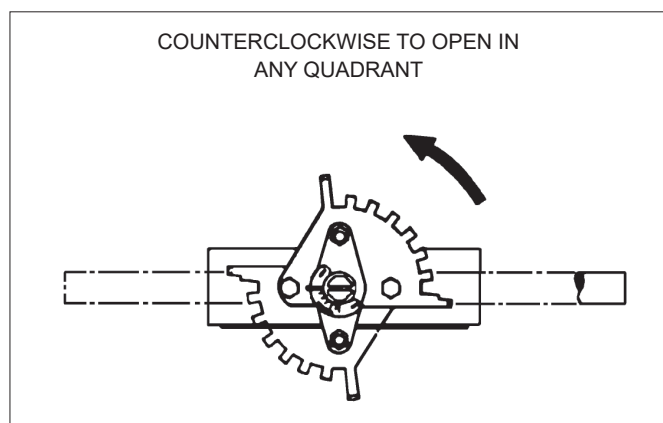

Figure 13.
- Remove the packing (8) and the spacer (7), and when applicable, the spacers (41) and (43)
- Remove the top bearing (6) either through the top of the valve or the waterway.
- Remove the bottom bearing (6) either from the bottom of the valve or the waterway.
- Install the bearings (6) into the body bores.
- Position the disc (3) in the body between the thrust bearings (64) and slide the shaft (4) through the body and disc. For high cycle constructions, position excluder rings in shaft bore of body as shown in **Figure 13**. Use caution to prevent damage to the bearings. An arrow and the word "bonnet" on the disc indicates correct orientation with the compression plate (10).
For proper assembly, the excluder ring must be assembled with the open side toward the waterway on both sides. See **Figure 13** for proper assembly.